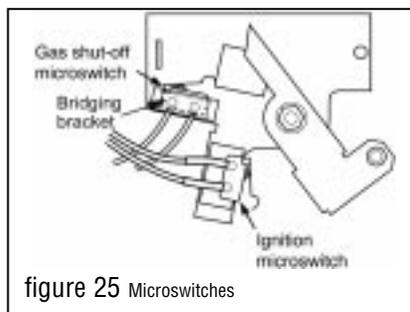

figure 25 Microswitches
- 10.1.3** Disconnect the leads from the ignition microswitch (The lower of the two microswitches - See figure 25).
- 10.2.4** Detach the bridging bracket, microswitch assembly and insulation pad by removing two screws (see figure 25).